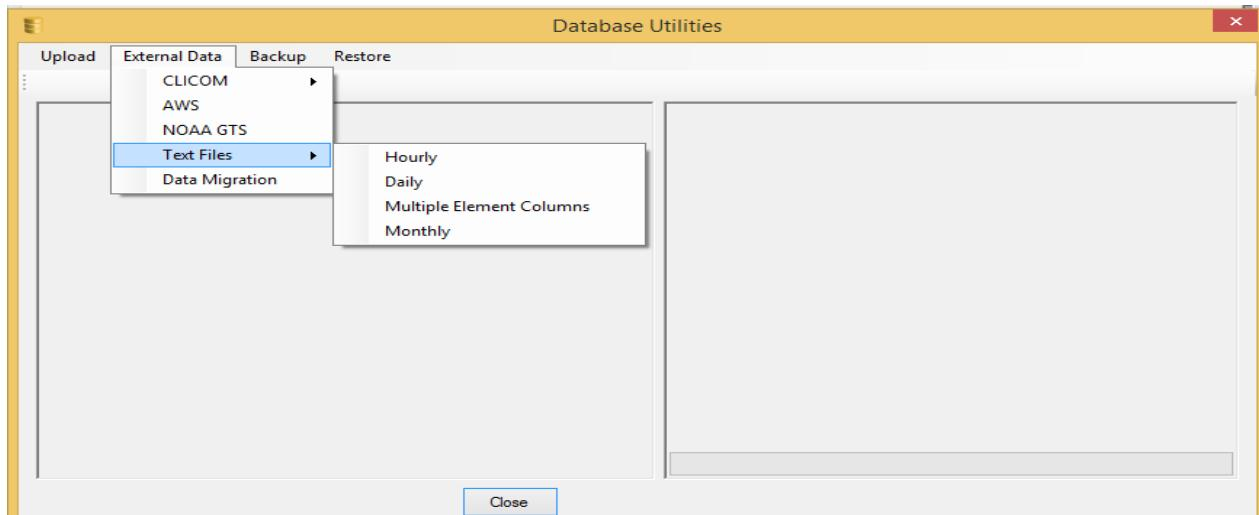

Figure 59: Import External Data Dialog
- Select “External Data” and select “Text Files” and then “Hourly or Daily” option, *Figure 59*,
- Select “**External Data**”, then “**Text Files**” followed by “**Multiple Element Columns**” as shown in Figure 59,